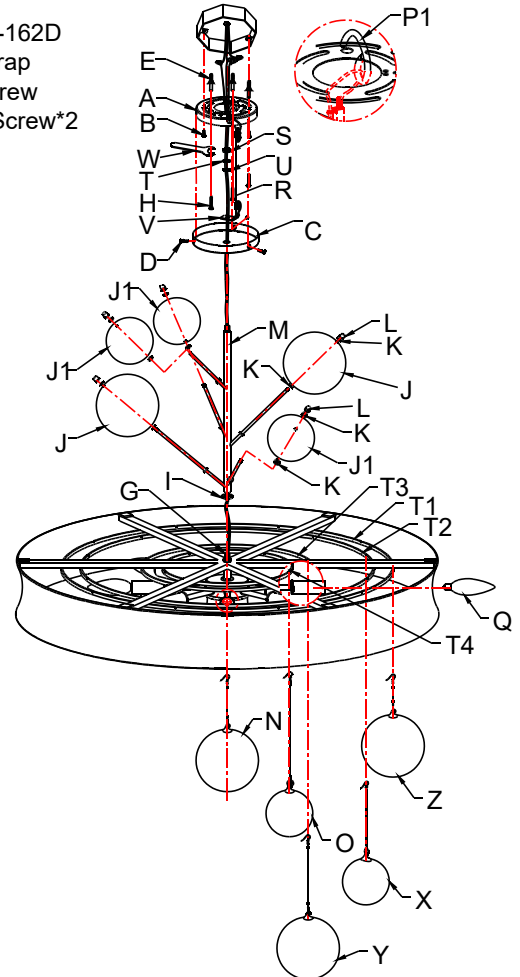

Fig. 4
### CONNECTING THE WIRES (Fig. 4)
9. Connect the electrical wires as shown in figure 4, making sure that all wire connectors are secured. If your junction box has a ground wire (green or bare copper), connect the fixture's ground wire to it. Otherwise, connect the fixture's ground wire directly to mounting plate (A) using the green screw provided.
8. Connect the electrical wires as shown in figure 4, making sure that all wire connectors are secured. If your junction box has a ground wire (green or bare copper), connect the fixture's ground wire to it. Otherwise, connect the fixture's ground wire directly to mounting plate (A) using the green screw provided.